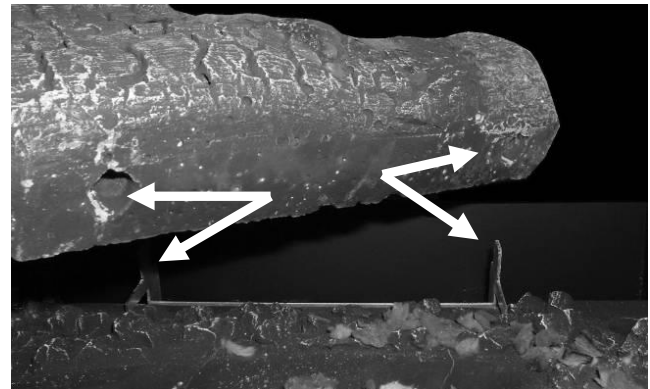

Figure 18 – Log 1 Mounting Detail
2. Place log 1 on support bracket as shown in Figures 18 & 19.